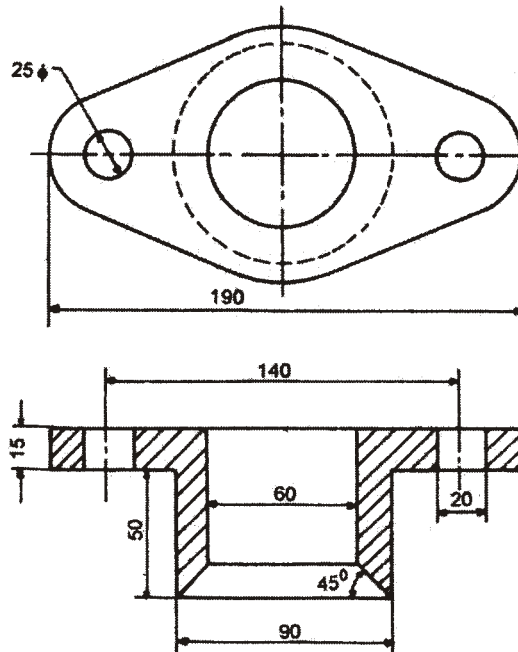

Fig.1.(All dimensions are in mm)
13. Calculate the weight of the component shown in Fig. 1. Density of the material may be taken as 8 grams/cm3 :